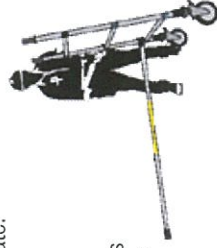

Fig.1
**2.** Attach at least one horizontal brace (yellow) to the frame upright just above the first rung with the snap hook facing outwards. The frame is now self-supporting-See Fig.1.